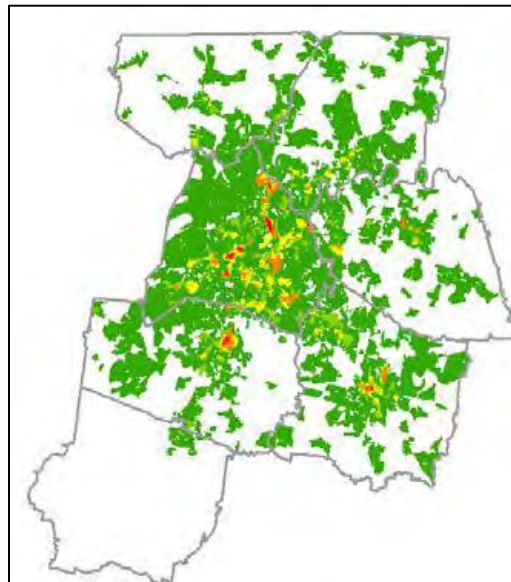

Figure 20. Users per Day
5. Users per Day (Figure 20): Relative measure of customers/visitors in each census block as dictated by the number and type of retail establishments (e.g. storefronts, movie theatre, sporting venues, etc.) in the block and other blocks within a ¼ mile radius.